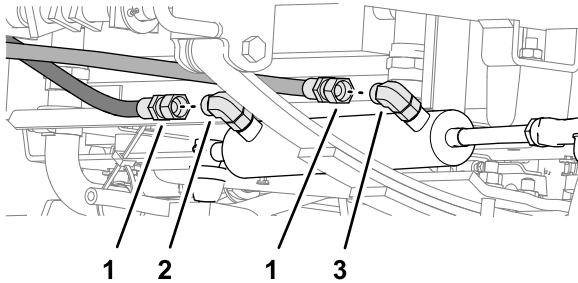

Figure 65
1. Disconnect the steering-cylinder hoses from the 90° fittings in the extend and retract ports of the steering cylinder (Figure 65).